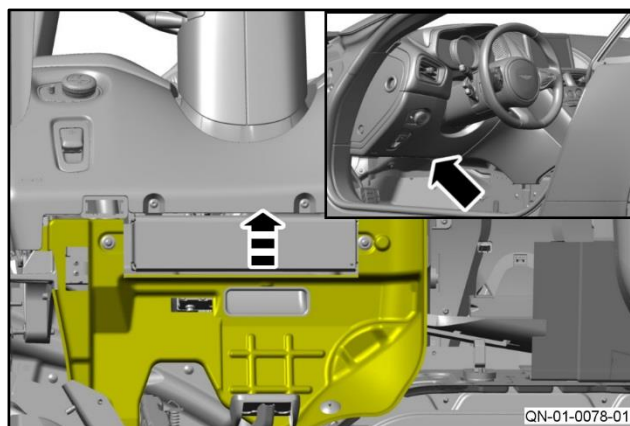

Figure 1
1. Move the hush panel to get access to the screw that attaches the lower duct to the instrument panel (IP) (refer to Figure 1).